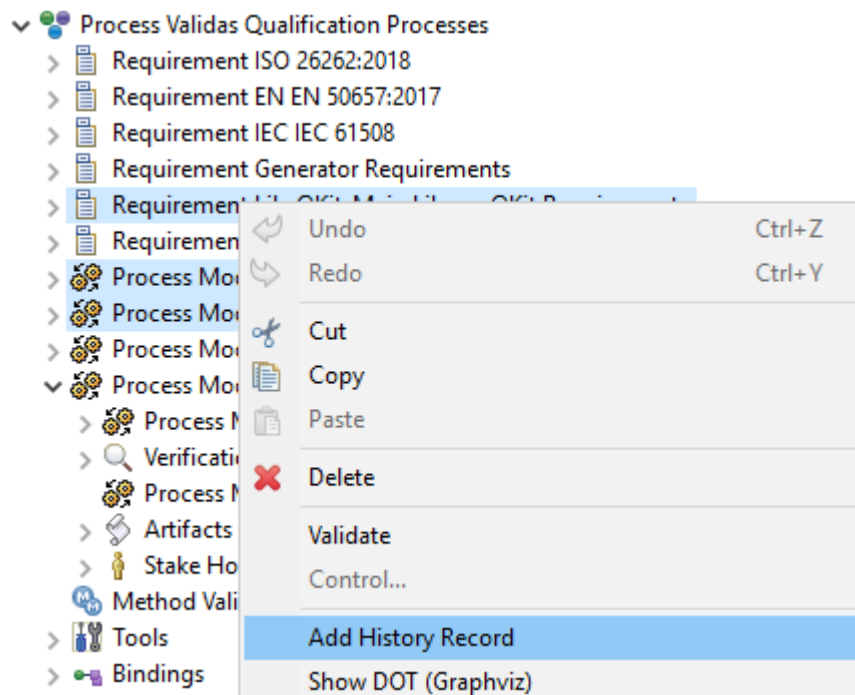

Figure 166: Starting "Add History Record Action"
- 2) Start the "Add History Record" Action as shown in Figure 166
- 3) Confirm the creation as shown in Figure 166